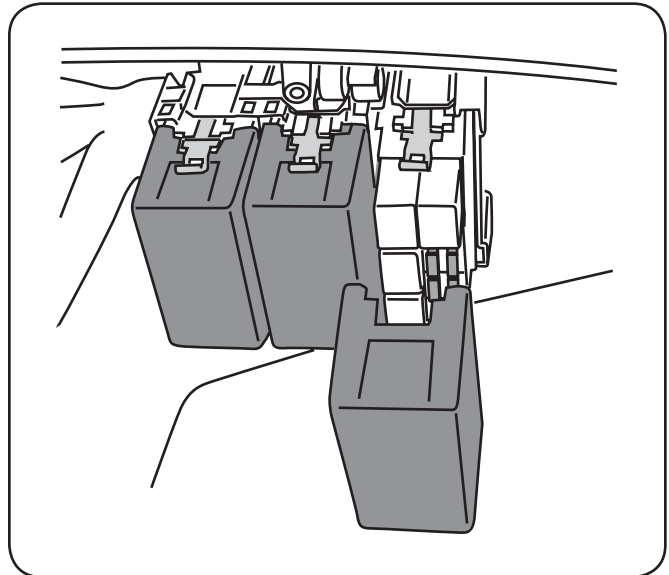

Figure 7-2
2. Remove fuse holder cover. See Fig. 7-2.